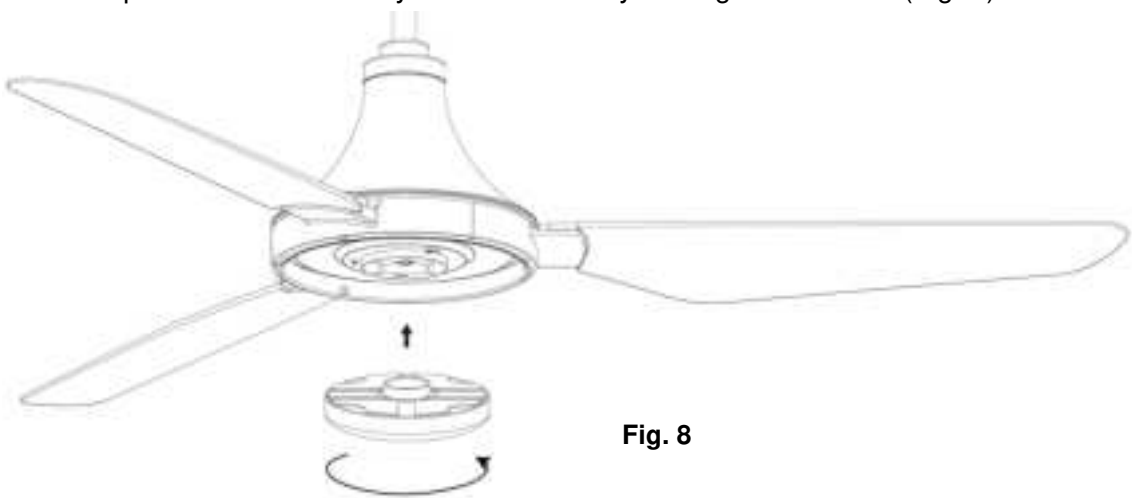

Fig. 8
INSTALLATION OF LAMP (Fig. 8)
- Install the GX53 lamp on the fan assembly then secure it by turning clockwise. (Fig. 8)